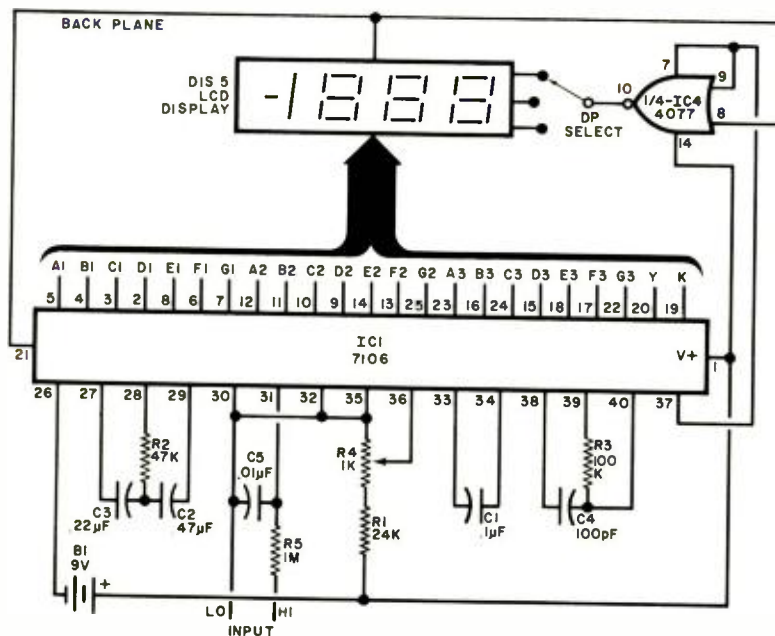
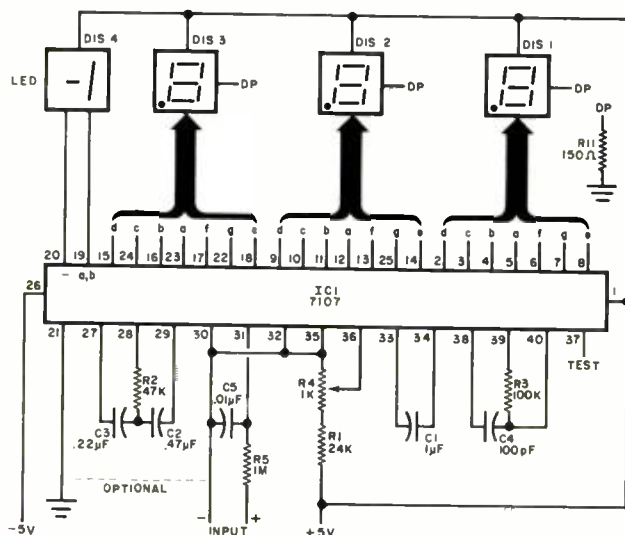

Fig. 1. As single 3½-digit A/D converter 7106 can directly drive an LCD display, using a NOR gate for decimal selection.
Fig. 2. The LED circuit, using a 7107 is similar to that in Fig. 1. Decimal point is selected through R11 to ground.
**About the Circuit.** The basic circuit for the LCD version is shown in Fig. 1, while the circuit for the LED version is shown in Fig. 2. Both circuits feature the same 3 1/2-digit display capability. Since both chips have a noise level of about 15  $\mu$ V, the associated display should be quite stable. With the inputs shorted, the display should indicate 000, with no roll-over of the last digit.
The decimal points in the LED display (Fig. 2) are driven by switching a 150-ohm resistor from ground to the decimal point in the desired decade.
LCD displays, such as that shown in Fig. 1, are driven by a symmetrical square wave applied to the backplane. Each digit segment is then turned on by applying an identical waveform (but reverse-phase) to it. For this reason, the decimal points of the LCD display are driven by inverting the backplane signal using NOR gate IC4. (LCD displays can be permanently damaged by prolonged application of a dc voltage. Any dc potential greater than 50 mV applied to the LCD for more than two minutes will permanently damage the display.)